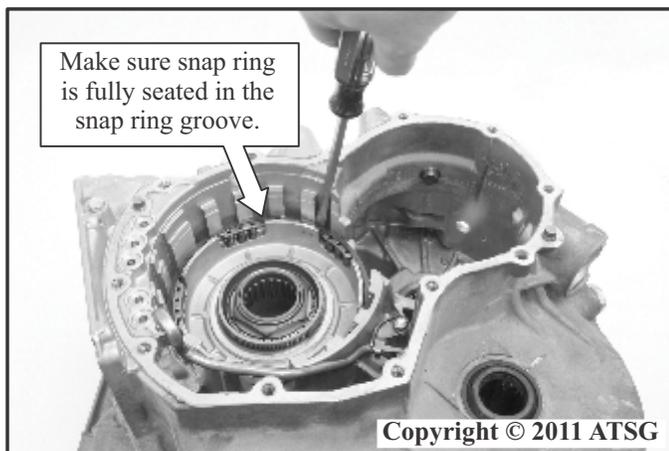

Figure 211
7. Install the L/R brake (B3) piston into the transaxle case by pressing downward and tap lightly with the handle of a screwdriver if necessary, as shown in Figure 211.
8. Install the L/R Brake (B3) piston return spring and the return spring retaining snap ring as shown in Figure 211.
9. Make sure the snap ring is fully seated in the snap ring groove in the case as shown in Figure 211.